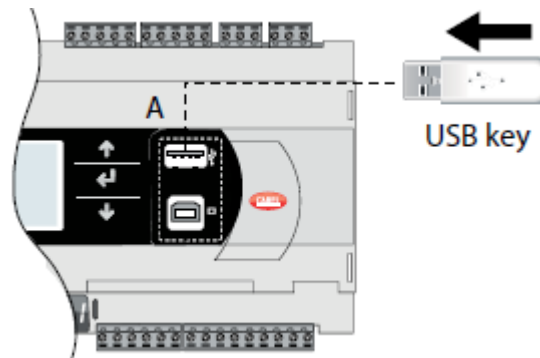

Figure 93. PLC Backup and Restore via USB
2. Ensure unit is locked out and tagged out. Open the control panel enclosure door and insert a USB mass storage device into the PLC as shown in **Figure 93**.